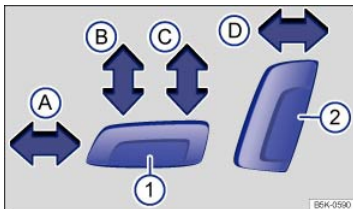

Fig. 73 Driver seat: Electrical controls to move the seat backward or forward, and adjust seat cushion height and backrest angle (if equipped).
Press the switch in the direction of the arrow ⇒ Fig. 73 :
- ① Move the front seat forward or back. Pull the lever up and move the front seat. The front seat must lock in place after the lever is released!
- ② Adjust the backrest angle. Pull the lever up and move the seat backrest. The seat backrest must lock in place after the lever is released! If the vehicle has an electrical control for adjusting the backrest angle, see ⇒ Fig. 73 ②.
- ③ Adjust the seat height. Move the lever several times up or down.